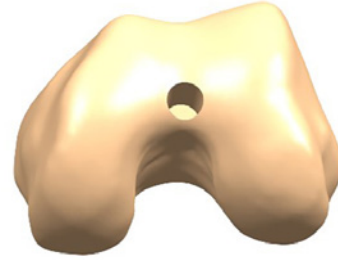

Figure 5
1. Open the femoral canal with the 9.5mm Intramedullary Drill. The drill has a 12mm step to open the entry point further (Figure 5).